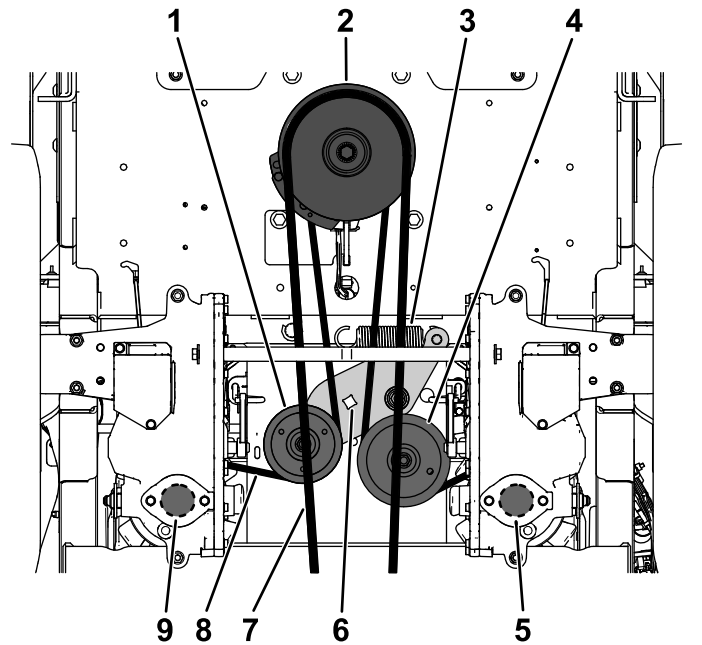

Figure 88
5. Use a 1/2-inch ratchet or breaker bar in one of the square holes in the idler arm to remove tension on the idler spring (Figure 88).
6. Remove the existing belt from the idler pulley, 2 hydraulic-pump-drive pulleys, and engine pulley (Figure 88).
7. Install the new belt around the idler pulley, engine pulley, and 2 hydraulic-pump pulleys (Figure 88).